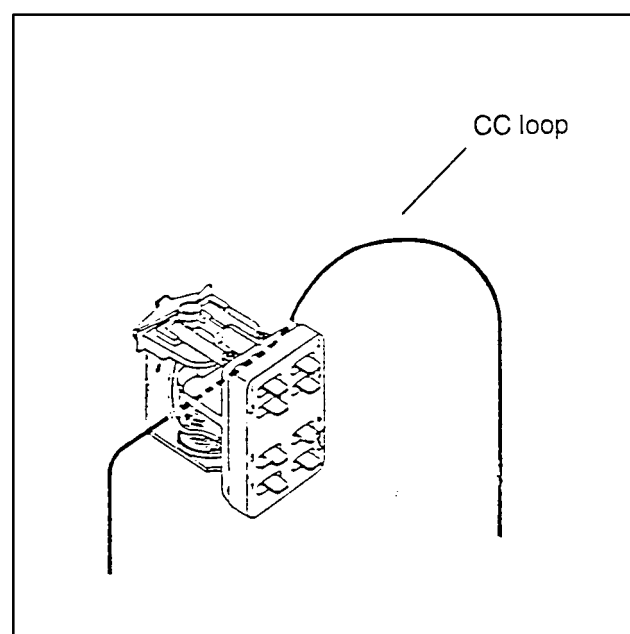

Figure 1. CC Relay with Lead
3. If the relay is used as a CC relay, there will be a large 8- to 10-ga. lead (CC loop) running *through* the frame of the relay near the coil. See Figure 1. This lead is connected between the C relay and 2TS (thermal switch).